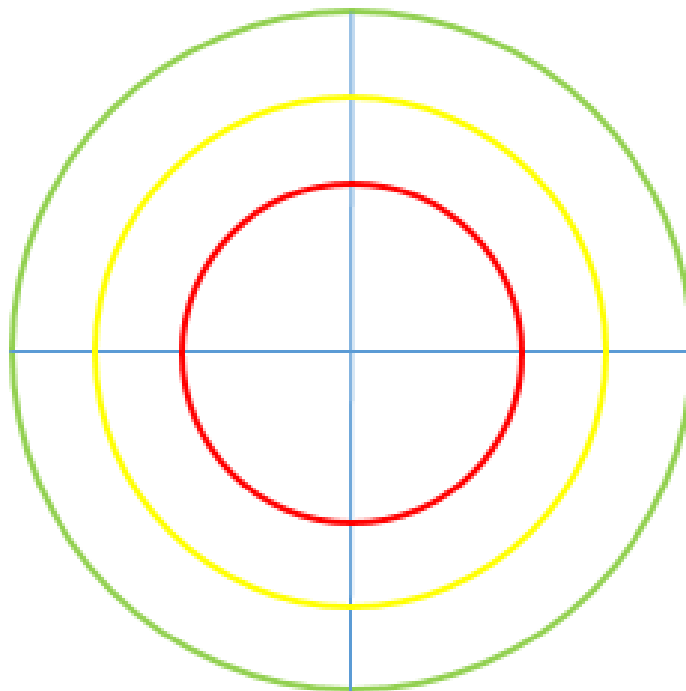

Figure: 03
- The goal of this mission is to drop at least one payload into the specified location on the airfield (see Figure: 03).
- The dropping area for Payload is shown in figure: 03 where the payload dropped in the inner most circle get high marks, keep in mind that the payload should hit the inner circle to get the marks for inner circle, hitting the boundary of inner circle would get marks of middle circle.